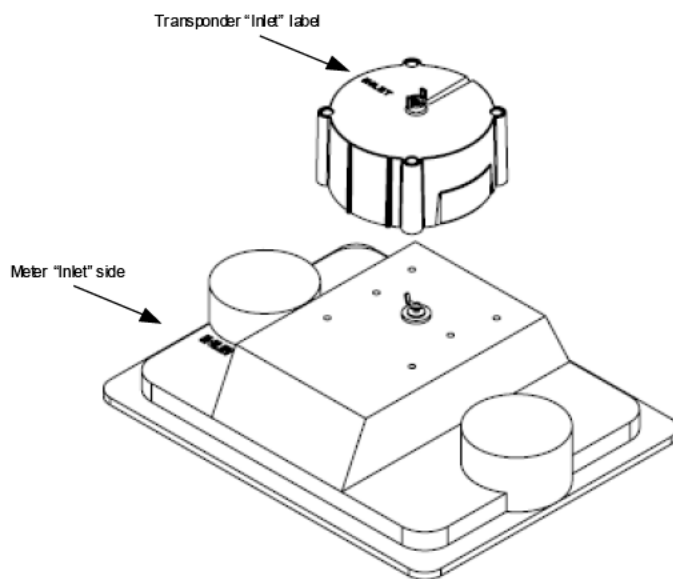

Figure 3. Sprague C & I Gas meter with DGT
- Examine orientation of the transponder and ensure that the "inlet" label on the transponder will align with the inlet side of the meter (Figure 3).